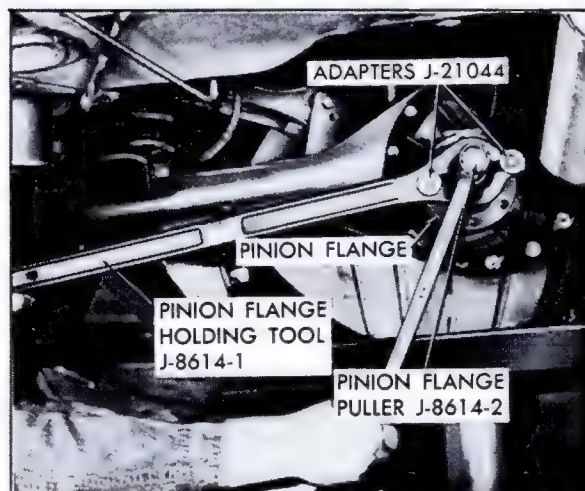

Fig. 4-41 Removing Pinion Flange
7. Install Rear Axle Pinion Flange Puller, J-8614-2, through hole in Holding Tool, index puller 45° and remove pinion flange from pinion shaft, Fig. 4-41.